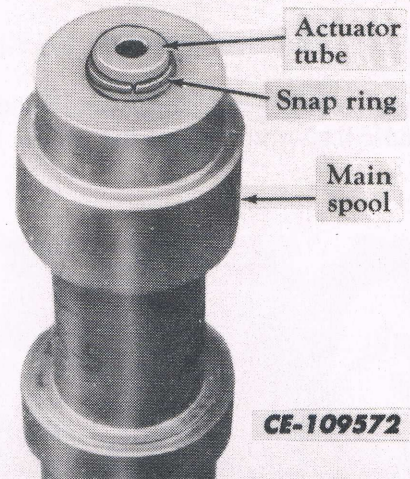

Fig. 40
h. Slide the actuator tube through the spool to expose the snap ring which holds it in the valve spool. Use two needle nose pliers and gently remove the snap ring so as not to damage it. See Fig. 40.